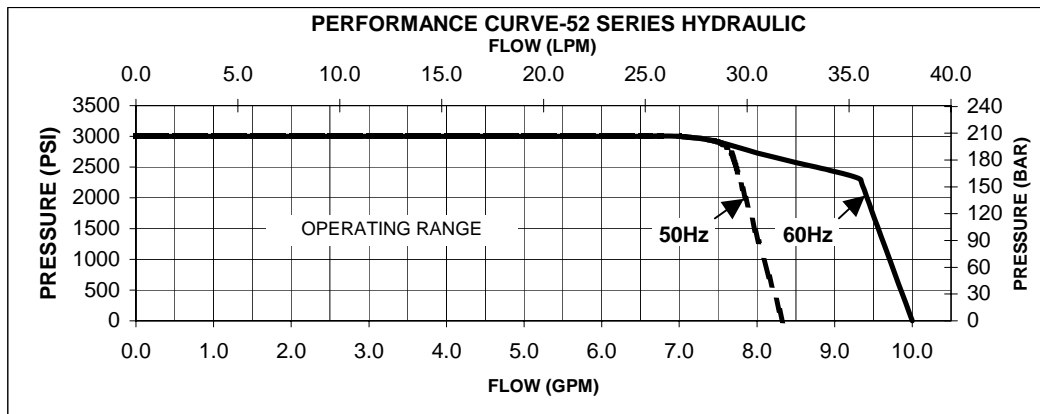

FIGURE 6.2.3 – Performance Curve (50 Hz and 60 Hz)
- Performance Curve for 50 Hz and 60 Hz:Reference **Figure 6.2.3**